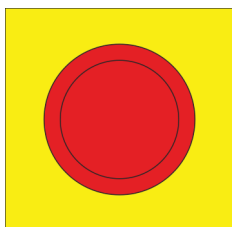

Fig. 53 Emergency stop switch
If there is an emergency stop switch (Fig. 53) at the entrance or exit, flip it.
6. If removing an object does not eliminate the blockage, flip the emergency stop switch (Fig. 53) and secure the revolving door so that no one can enter. Contact DORMA customer service (Customer service, p. 5).